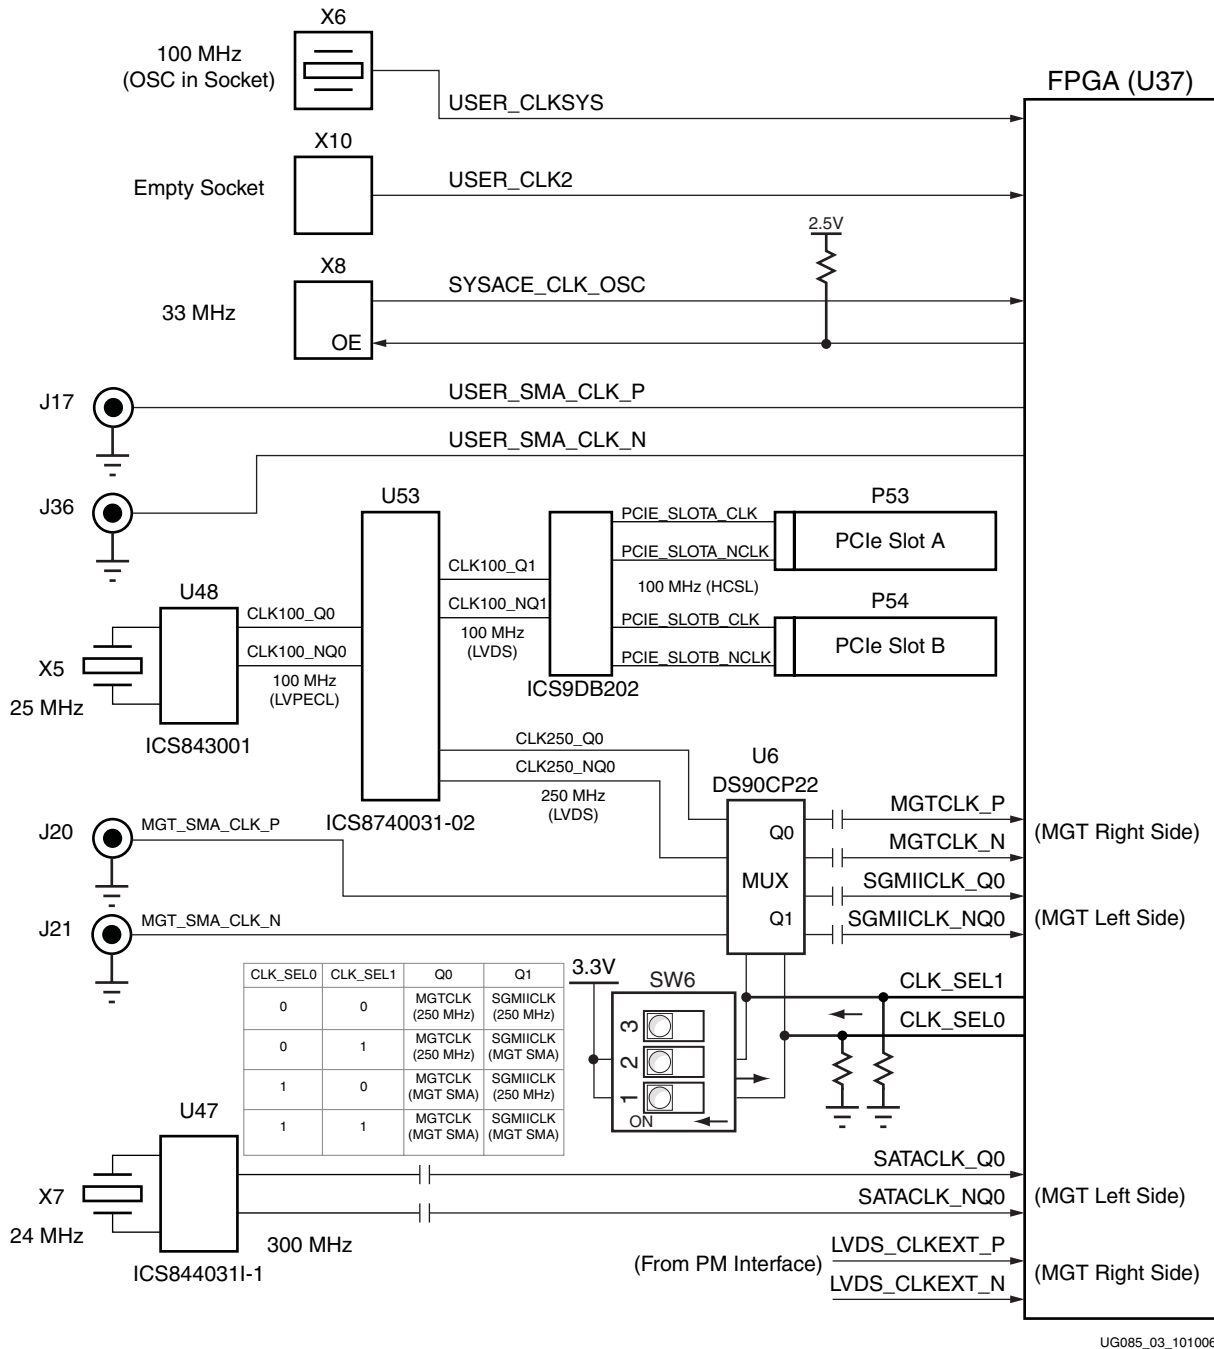

Figure 2-3: ML410 Clock Distribution
Figure 2-3 is an example of the clock distribution for the ML410 board. For clocking on earlier revisions of the ML410 platform, see Appendix A, “Board Revisions.”
2. These clocks are differential pairs through the RocketIO transceivers and are not available on ML410-P boards. See Figure 2-3, page 27.